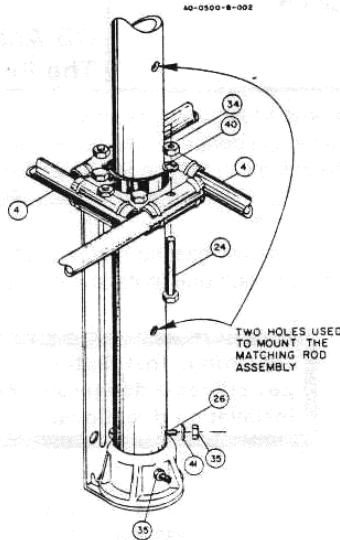
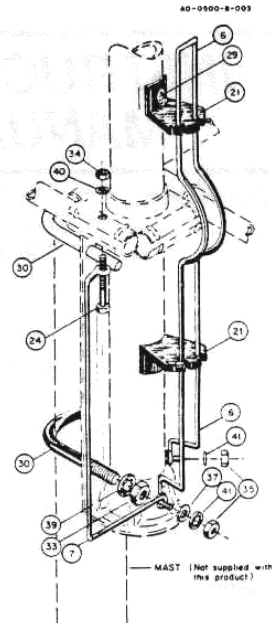

Figure 2
Figure 3
NOTE: Make certain the end of the M1 assembly (Item 13) with the two holes is down and aligned with the holes in the insulator (see Figure 2). Remember to point the two smaller holes (located 5 $\frac{1}{2}$ " and 13" from the bottom end) away from the base bracket. These will be used to attach the matching rod assembly (see Figure 3).
Fasten the M1 assembly to the insulator with the #10 x 1 $\frac{1}{4}$ " screw, see Figure 2, Item 26 and associated hardware, Items 35 and 41. Tighten SECURELY.
Referring to Figure 2, assemble the $\frac{3}{8}$ " x 55" R1 tubes (Item 4) into brackets, align the holes and fasten with $\frac{1}{4}$ " x 1 $\frac{1}{4}$ " screws, nuts and lockwashers (Items 24, 34 & 40). Do not tighten nuts.
Remove the two rod support insulators (Item 21) and the two #10 x $\frac{3}{8}$ " Type T screws (Item 29) from the parts pack and attach them to the M1 assembly as shown in Figure 3.
Attach the matching rod and beta rod exactly as shown in Figure 3.
- () Loosely assemble the $5/16$ " U-bolts on the bracket as shown in Figure 3.